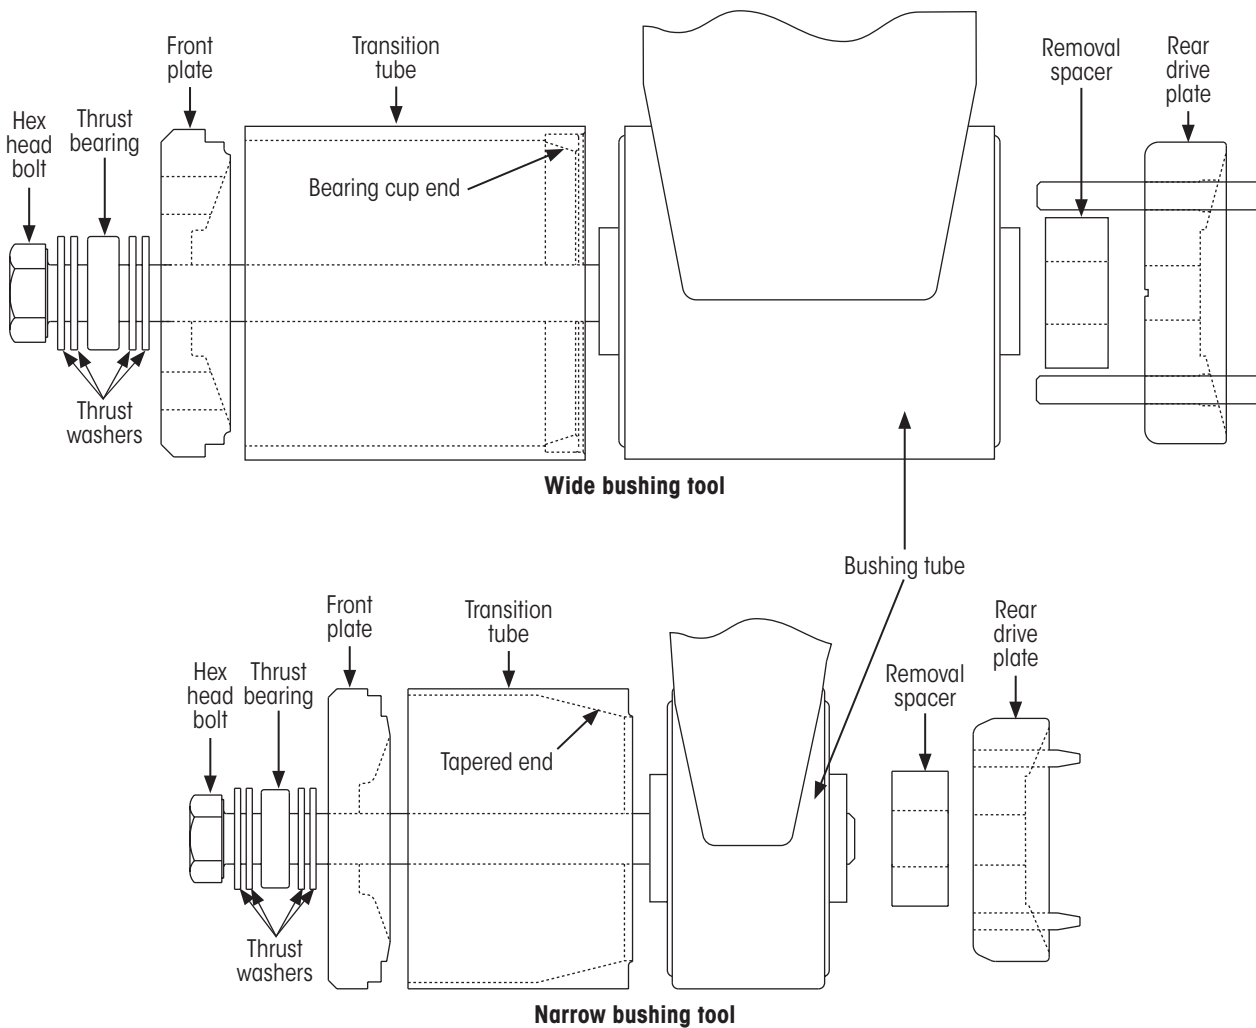
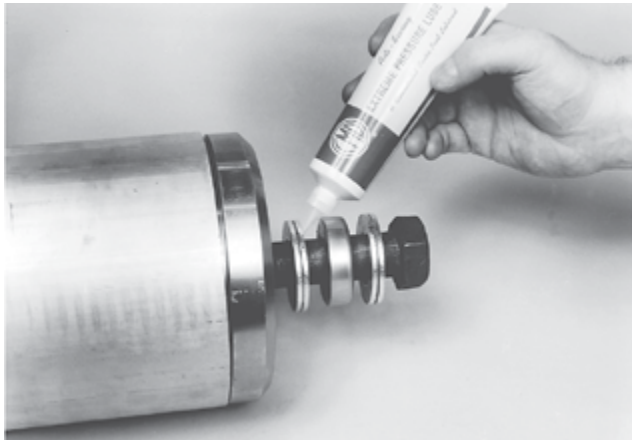

Figure 15: Assembling bushing tool for removal
Figure 16: Applying lube to thrust washers
5. With the transition tube empty, **assemble** the bushing replacement tool as shown in Figure 15.
For bushing removal, ensure the tool is assembled so that the end of the transition tube with the bearing cup (wide tool) or taper (narrow tool) can be placed against the bushing tube as shown in Figure 15.
There must be two lubricated thrust washers on each side of the thrust bearing as shown in Figure 15 and Figure 16.
6. **Apply** extreme-pressure lube to external surfaces of the thrust washers (Figure 16).